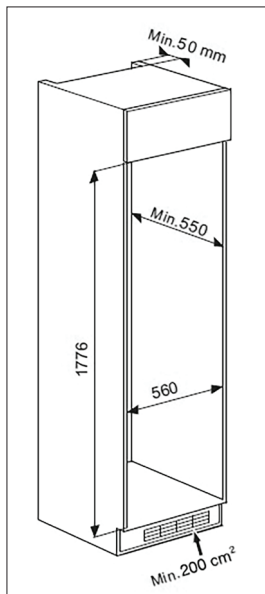
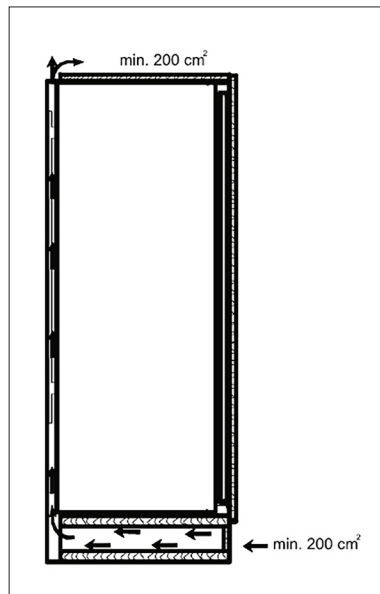

Fig. 1
Fig. 2
- The appliance is installed in standardized kitchen furniture designed for built-in appliances or in properly adapted furniture of dimensions according to Fig. 1. The dimensions in the table are given in mm.
- Ensure that sufficient ventilation is provided as shown in Fig. 2.
2. The required dimensions of the cabinet for the installation are shown in Fig. 1. To provide an effective air circulation around the appliance, ensure there is a sufficient space as shown in Fig. 2.